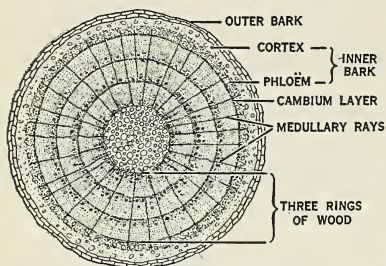

Fig. 354. Cross section of an oak twig.
those found in roots (Fig. 354). They are the *bark*, the *wood*, and the *pith*. When you peel the bark from the stem, you will find also a slippery layer between the bark and the
**Telling a tree's age and history.** From a stump foresters can tell the age of a tree. They can learn in what year there was a severe drought and when a fire swept through the forest. On the cut end of a tree trunk you will see rings that grow around the center of the tree (Fig. 354). By these rings you can tell the age of a tree. Let us understand how. The cambium lying at the outer edge of the wood grows more rapidly in spring than later in summer. The cells of the cambium make new cells by